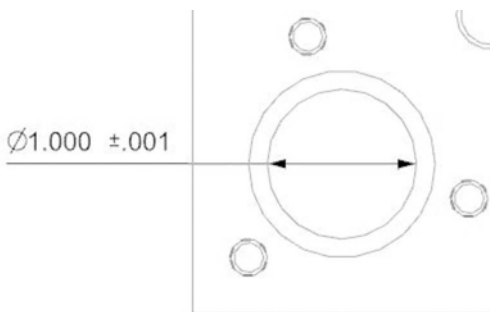

Figure 6-26 Product Manufacturing Information
- I. Product Manufacturing Information (PMI) represents annotations on the part design that are taken into consideration automatically during manufacturing process creation; these annotations affect the operations that are developed. In the example in Figure 6-26, a bilateral hole-tolerance is given to each of the 1.0 diameter holes at the corners of the part. Another commonly used annotation is for surface finish requirements.